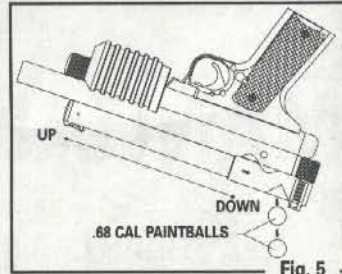

Fig. 5
- Slide the rear sight/loader all the way back (Fig. 5).